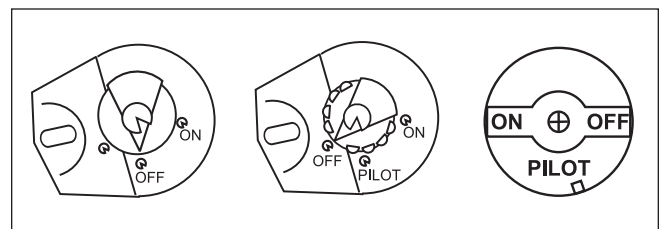

Figure 12. Gas Valves.
- c. Different models of the BJV boiler utilize various gas valves. Although the gas valves may have different control knobs, they are all similar in operation. The BJVS gas valve has a two-position knob, ON and OFF. The BJVT valve has a three-position knob, ON, OFF and PILOT, some models come with extra push-button (see Figure 12).
3. Remove burner cover by loosening two (2) thumbscrews.
5. On all burners exhibiting an abnormal flame, loosen but do not remove the air shutter locking screw using a 5/16 inch wrench (see Figure 12).